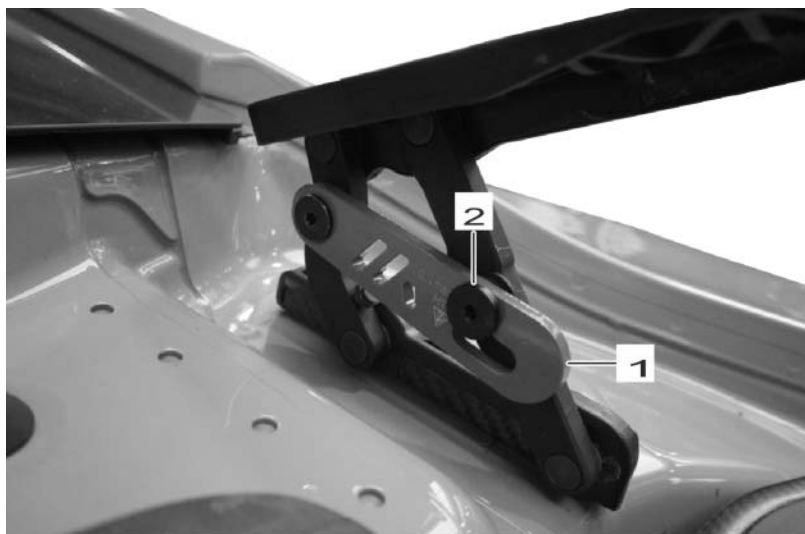

Figure 66
37. – Attach the new hinge lock ⇒ *Figure 66 -1-* in position so that the screw ⇒ *Figure 66 -2-* can be attached to the front hinge arm.